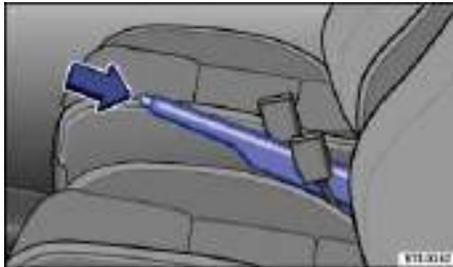

Fig. 139 Between the front seats: Parking brake.
- Pull the lever up slightly and press the release button ⇒ fig. 139 (arrow).